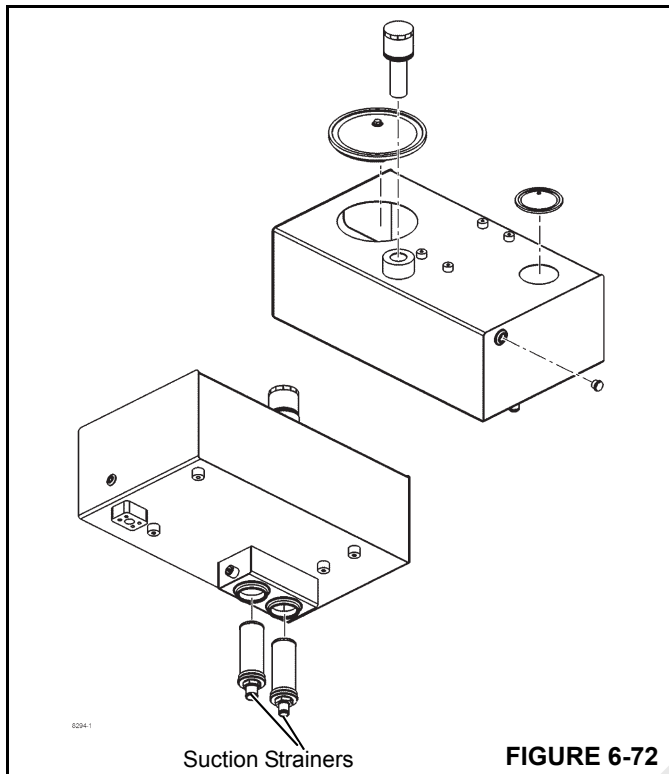

FIGURE 6-72
9. Disconnect all hoses from hydraulic tank (Figure 6-72). Secure the main pump suction line so that the hydraulic oil in the hose will not drain out.